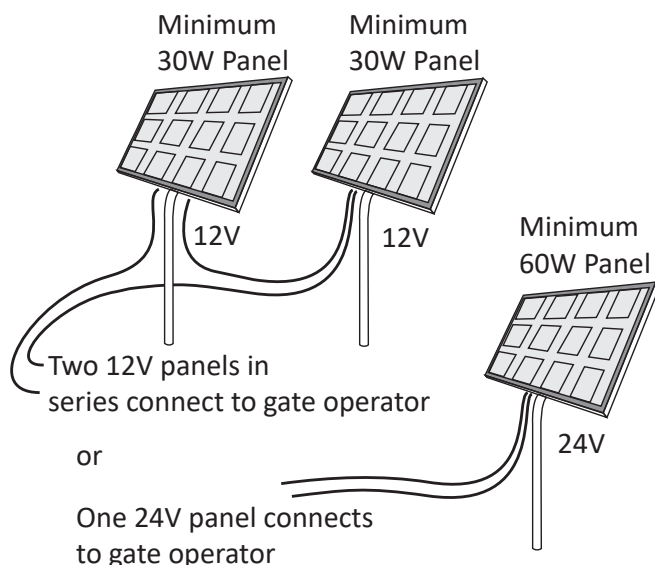

Figure 40. Minimum Solar Panel Configuration
1. Install one 24VDC solar panel or two 12VDC solar panels in series with a total capacity of at least 60W (Figure 40). Mount them according to the manufacturer's installation instructions within 100 ft of the operator. Check NEC and local regulations for other distances that may apply.